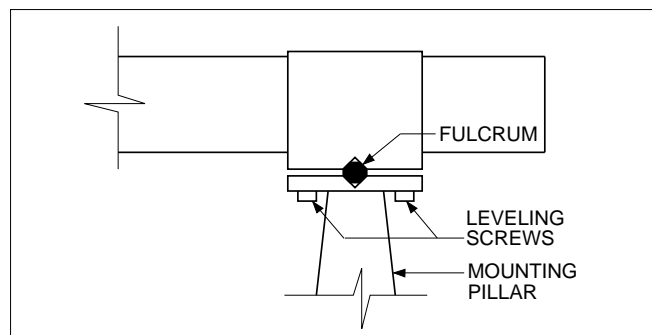

Figure 4 Leveling the Telescope and Collimator
- ① The telescope and collimator pivot about a fulcrum on their respective mounting pillars (See Figure 4). Use the aluminum rod provided with the accessory equipment to adjust the leveling screws. Loosen one as the other is tightened until the unit is level and secure.